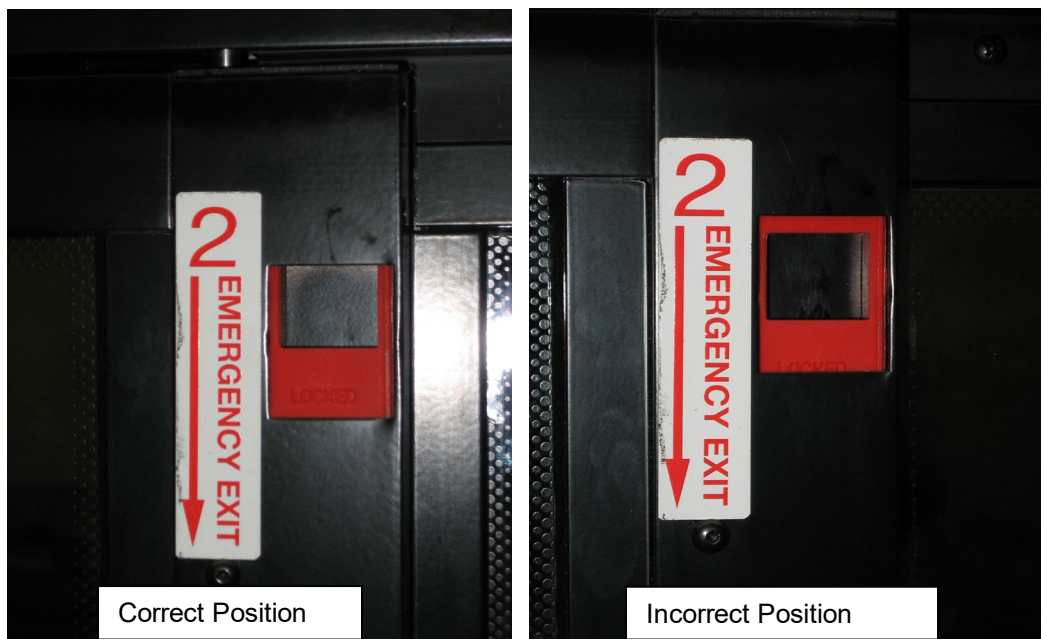

FIGURE 48: RELEASE LATCH PROPER POSITION
6. Confirm that both latches are in the closed (latched) position. The upper edge of the latch opening must be aligned with upper edge of the sash opening (Figure 48)